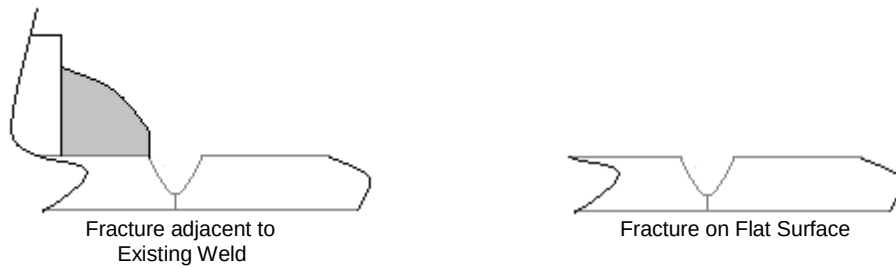

Figure 1.
9. Using a grinder or similar means, notch the barrel skin surface along the line of the fracture. The material should be removed to a depth of approximately 2/3 of the barrel skin (1/8") deep. (Figure 1.)